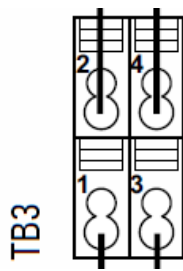

Fig.: 2-pin terminal TB3
4. Connect the other inverters to each other in the same way (see Figure: 2-pin terminal TB3)